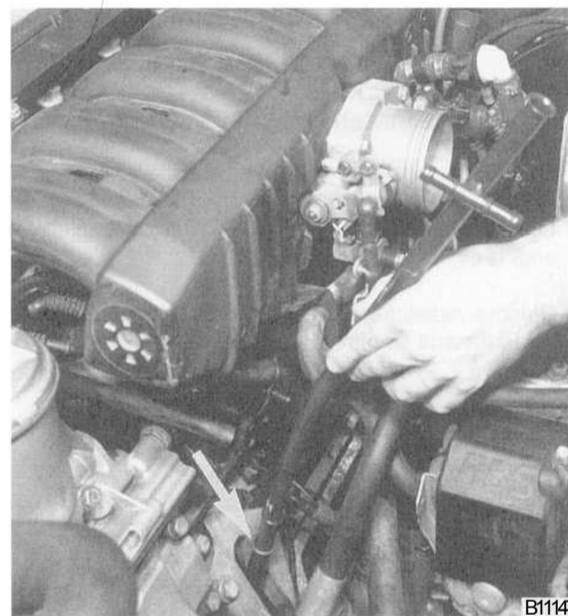

Fig. 7. Oil dipstick guide tube being removed. Use a new O-ring (arrow) during installation.
6. Remove the oil dipstick guide tube mounting bolt and remove the tube. See Fig. 7.